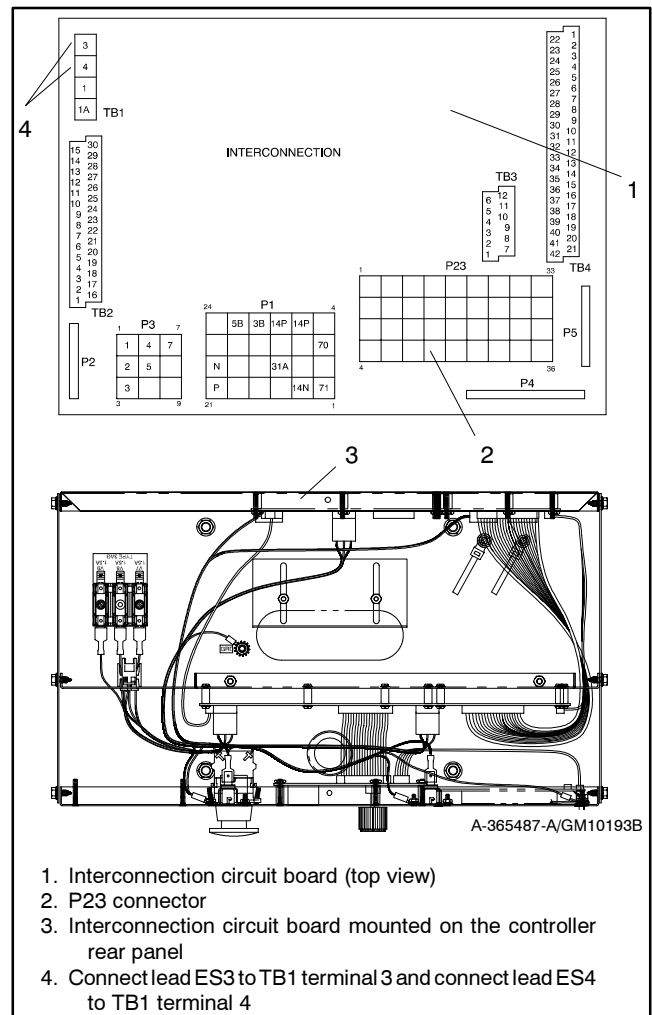

Figure 5 Attaching Wiring Connection Harness to Controller Circuit Board
2.6 Plug the wiring harness connector into the interconnection circuit board's P23 connector. Connect lead ES3 to TB1 terminal 3 and connect lead ES4 to TB1 terminal 4. See Figure 5. If access to the interconnection circuit board is difficult, remove the two controller panel top screws and center bottom screw and then loosen the bottom screws on each side to swing the rear controller panel down.